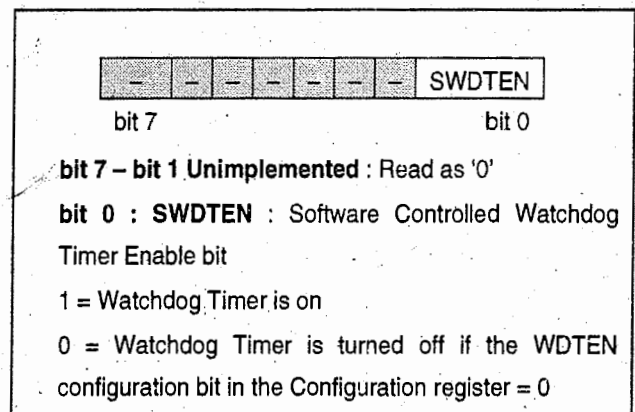

Fig. 4.16.1 : WDTCON : Watchdog Timer Control Register
- Fig. 4.16.1 shows the Watchdog timer control register.